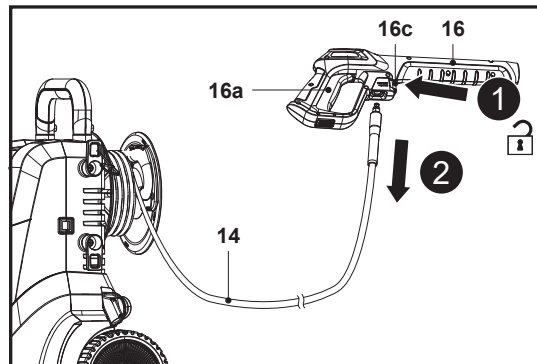

Fig. 8
3. To disconnect the pressure hose (14) from the spray gun (16), push the quick release lever (16c) towards the pressure hose (14) and hold it in place, then pull out the pressure hose (14) (Fig. 8, steps 1, 2).